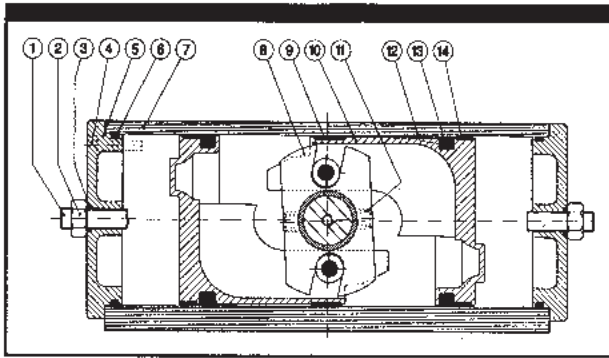
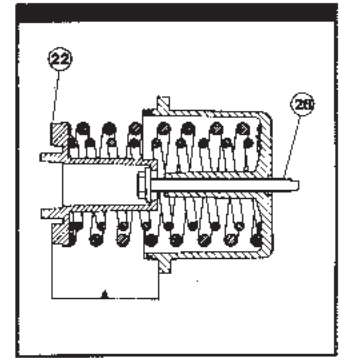
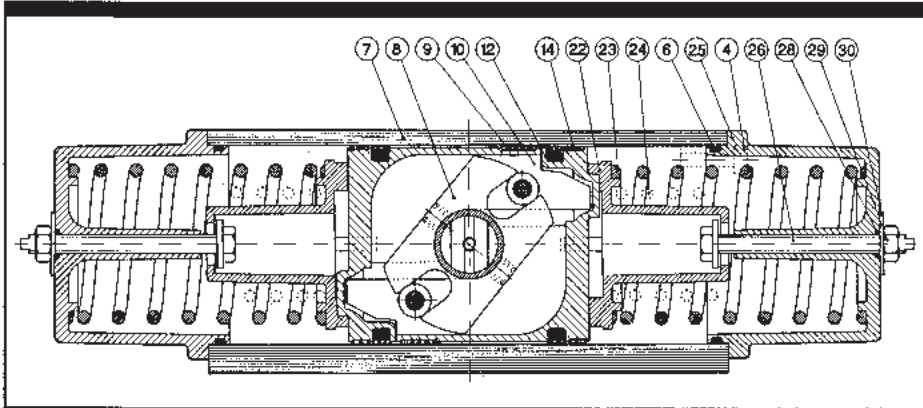

Figure 1 - RC 200-DA from above
Figure 4 - Spring Pack Pretensioning
Figure 3 - RC 200-SR from above
The pistons of standard Type DA Actuators are mounted as shown in figure 1. This provides for the highest torque at the "closed" (CW) valve position for valves that rotate clockwise to close. The pistons are then in their outermost position and the end of travel stop (yoke turning angle) can be fine adjusted $\pm 3^\circ$. To enable this adjustment to be done in the "open" (CCW) valve position, turn the pistons 180° about their axis as shown in Figure 3.
The pistons of standard Type SR Actuators are mounted as shown in Figure 3. Although spring force is diminished, the geometry of the mechanism provides a greater torque at the end of the spring stroke than at mid stroke. When the actuator is in the "Open" valve position (Springs fully compressed), the end of travel stop, (turning angle), can be fine adjusted $\pm 3^\circ$.
4. Confirm that the springs are fully extended as shown in figure 3. This can be confirmed by observing that the flats on the top drive shaft are 90° to the actuator axis on a "Fail Close" (fails CW) when viewed from the top of the actuator and parallel to the axis on a "Fail Open" (fails CCW) when viewed from the top of the actuator.
5. Loosen Locknut (29).
6. Rotate tensioning screw (26) counterclockwise until resistance is felt, then turn one more full turn.
7. Remove screws (4).
9. Rotate drive shaft (15) until the pistons are at the end of the cylinder. This can be done by turning the drive shaft with a wrench on the flats or by clamping the shaft between soft jaws in a vise and turning the actuator. Insert two close fitting rods in the holes on the end of the piston and, squeezing them, pull the piston(s) from the cylinder.
12. Rotate piston(s) 180° about their axis and reinstall them as shown in figure 1.
13. Ensure that pistons are lined up so that roller bearing (21) engages scotch yoke correctly. Once pistons are in, rotate shaft 90° to draw pistons in and confirm proper engagement. Pistons should now be in their innermost position. On sizes RC 230 through RC 280, align spring assembly so that one of three support points falls between the bosses on the piston and pins engage holes in the piston.
14. Install screws (4).
16. Tighten locknut (29).
1. Pretension spring assembly using item (26). Refer to Table 1 and Figure 4.
4. Follow instructions above for removing piston(s) (10).
7. Turn pistons 180° about their axis and reinstall them per figure 3.